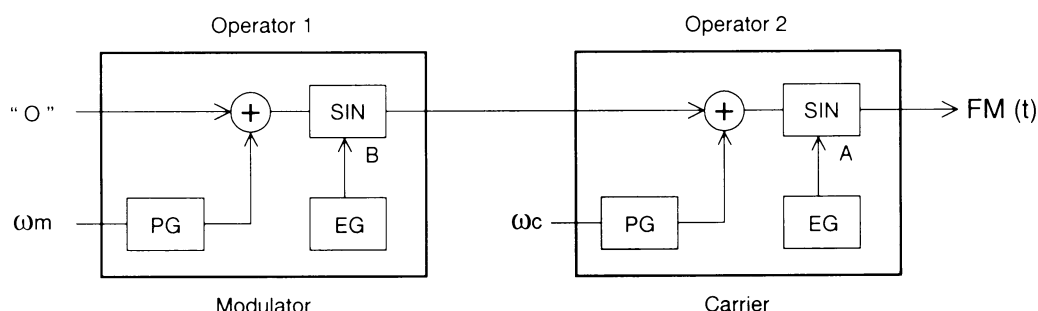

Fig. 1-1 Basic FM System
The block diagram of the basic FM system is shown in Fig. 1-1.
The block diagram shown in Fig. 1-1 is represented by Eq. (1).